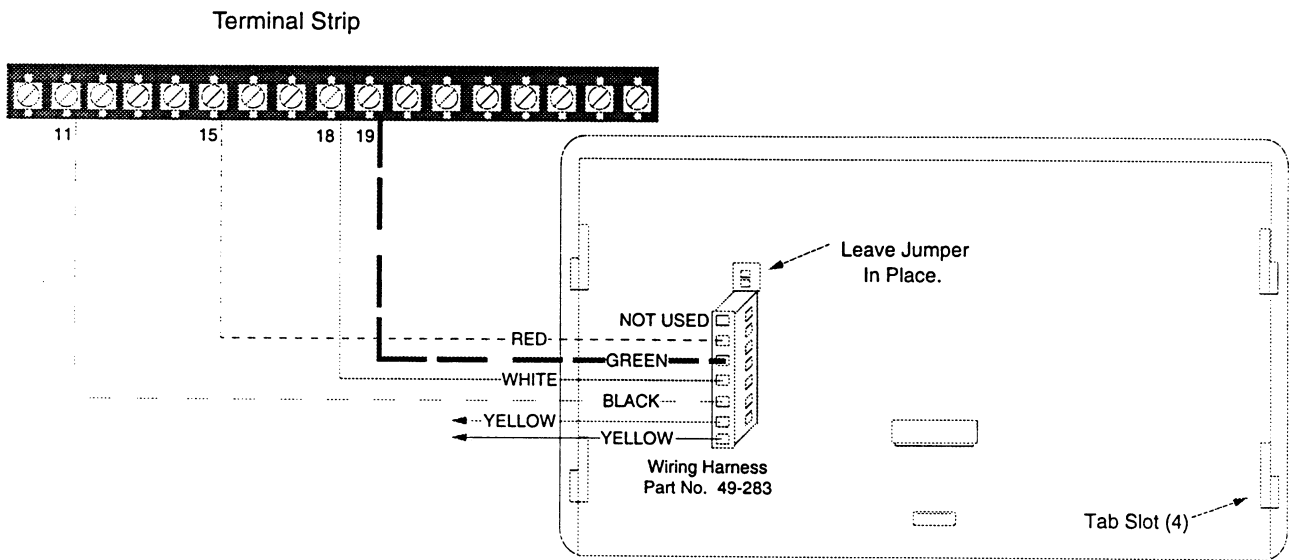

Figure 3.7. Wiring the Alphanumeric Touchpad
3. Attach the cable wires to the wiring harness as shown in Figure 3.7. and Table 3.3.